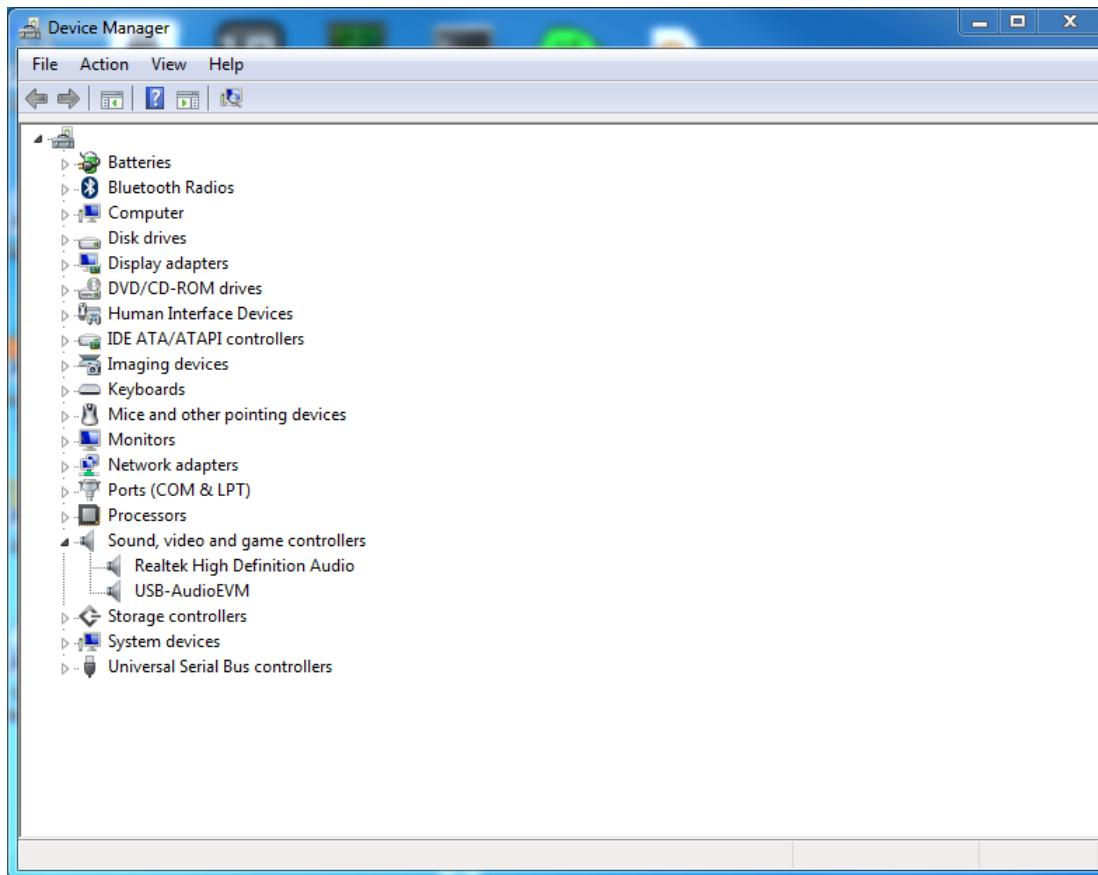

Figure 2. Device Manager
Upon power-on, the PPCMB uses USB audio input (default). The I²S signals LRCLK, SCLK, SDIN and MCLK come from the TAS1020B. foobar2000 or similar non-processing media source can be used to stream audio. The TAS1020B enumerates as the following device on a Microsoft Windows operating system (OS): USB audio (USB-AudioEVM), Human Interface Devices, and USB Composite Device, see Figure 2.